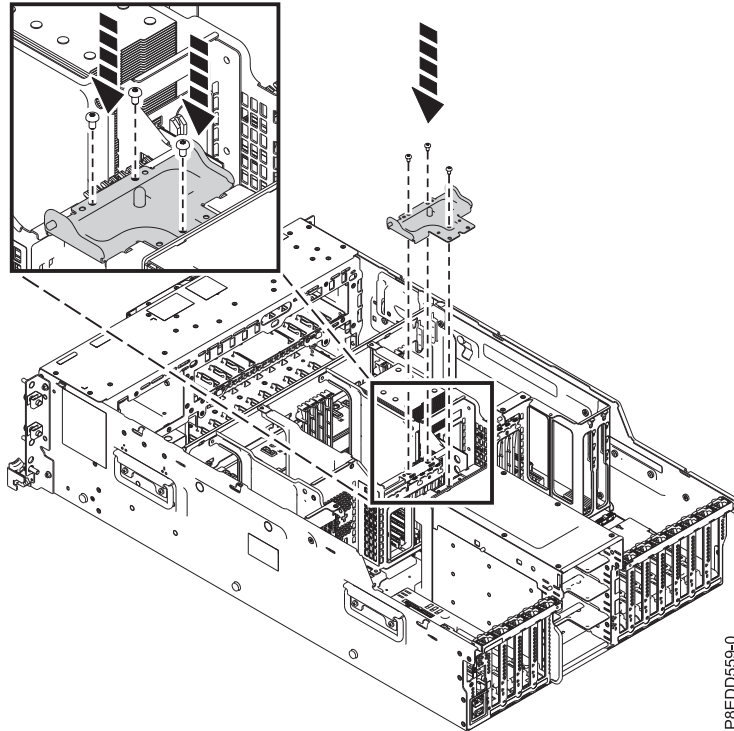

Figure 19. Installing the top cover attach bracket
- d. Install the top cover attach bracket. Then, install and tighten the three screws that secure the top cover attach bracket by using a T-10 Torx driver, as shown in Figure 19 on page 19.